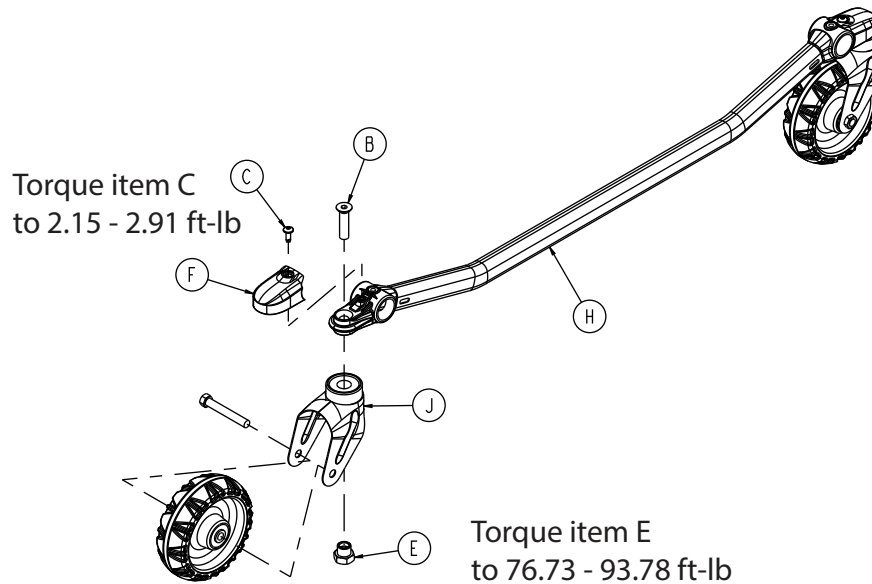

Figure 66 – Caster horn components (non-brake base tube)
- Using a T30 Torx driver, remove the pan head machine screw (C) that secures the caster mount cover (F) to the base tube (Figure 66). Remove and save the caster mount cover. Save the screw.
- Using a 1" combination wrench, remove the flat head/hex socket bolt (B) and caster nut (E) that secure the caster horn (J) to the base tube weldment (H) (Figure 66). Remove and discard the caster horn. Save the bolt and nut.